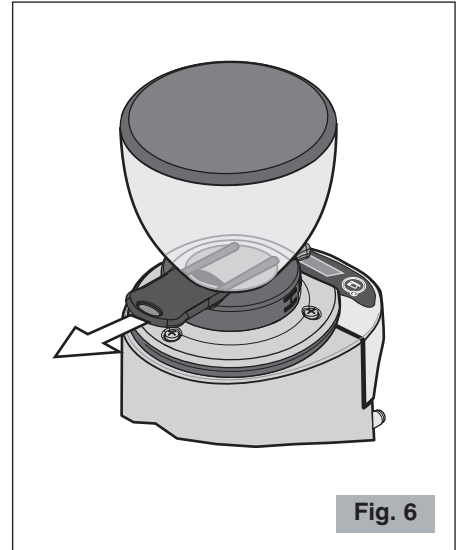

Fig. 6
**Make sure that shutter is completely open (to the last click) (see Fig. 6).**